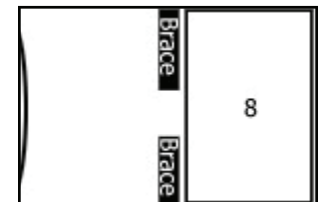

Figure 2
5. If you are installing an upgraded crossover from Skiing Ninja, follow the instructions for installing the new crossover boards before continuing with this installation. See Figure 2 of the following page for correct placement of your new crossover network boards. After your new boards are installed you are ready to continue installing the NoRez.
(Figure 2)